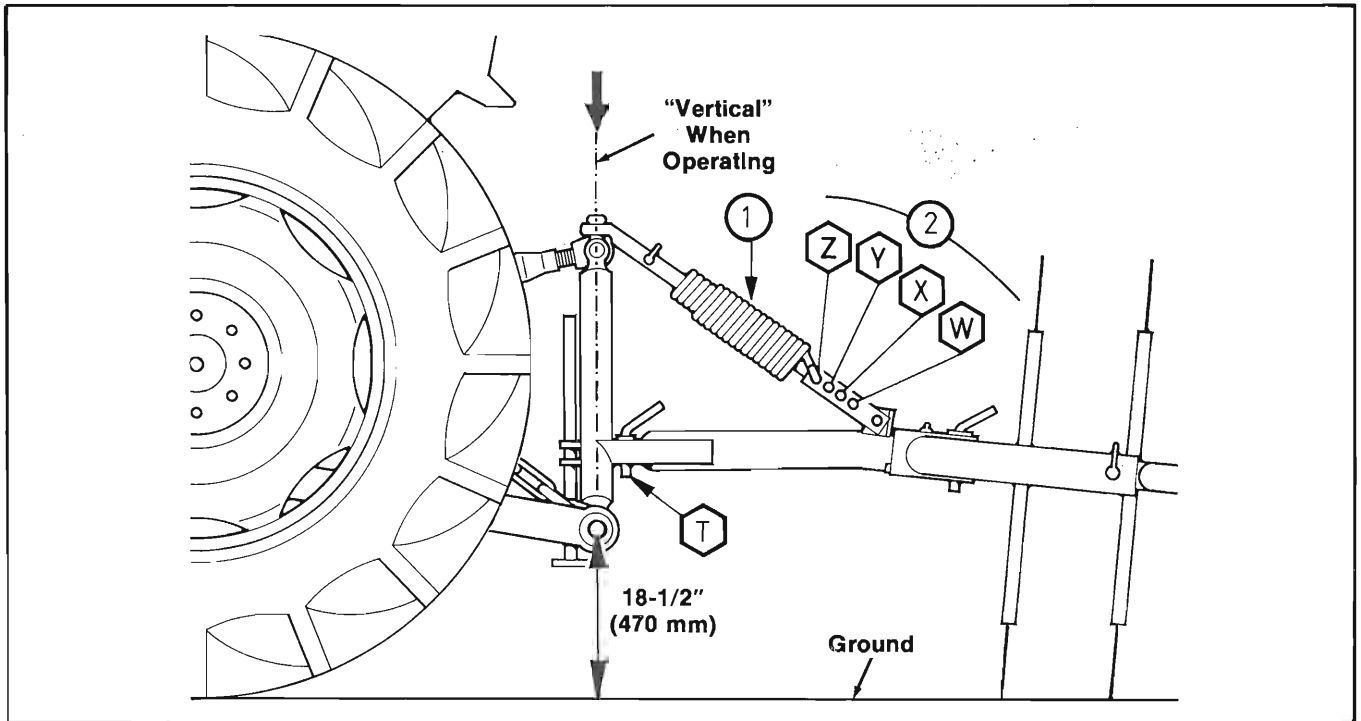
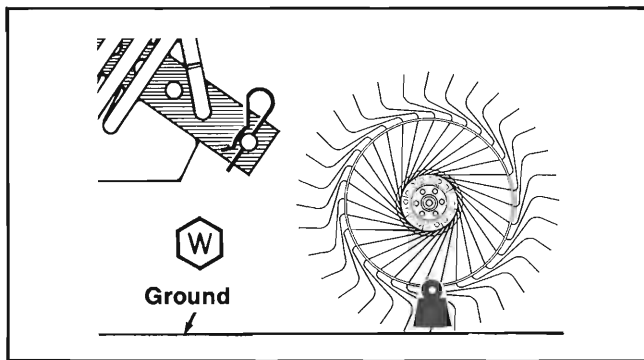

Fig. 12
Fig. 13
By extending the Telescoping Spring, more pressure can be applied to the Finger Wheels (1 of Fig. 12). The Spring Tension can be increased or reduced by using the Adjustment Strip WXYZ (2 of Fig. 12). Hole (W) (Fig. 13) allows a maximum Spring tension and a minimum Finger Wheel pressure.